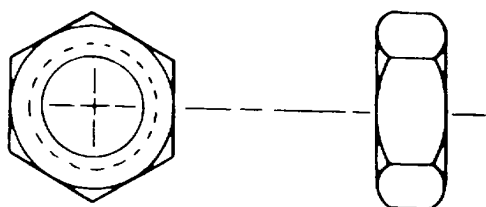

Figure 2-24. Plain Checknut
c. *Checknuts.* Use AN316 aircraft plain check-nuts, as shown in figure 2-24, as a locking device for plain nuts, setscrews, threaded rod ends, and other similar items